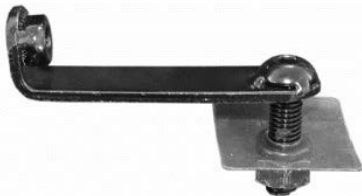

Fig 3A
3	Select (1) 10mm L-Bolt/Nut Plate, (FIG 3A) . Insert the bent end with the 8mm nut into the hole in the bottom of the floor panel, (FIG 3B) . Line up the hex nut with the hole in the side of the floor panel. Thread (1) 10mm Plastic Retainer onto the 10mm Bolt end of the Bolt/Nut Plate, (FIG 3B) . NOTE: The Plastic Retainer is provided to help hold the Bolt/Nut Plate in position during Bracket installation.